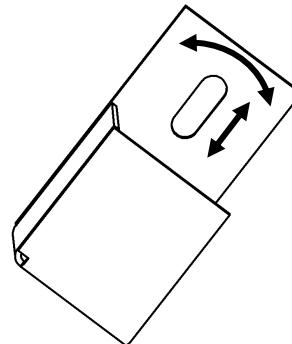

Figure 3-28
2. Loosen the bolt just until you can move the bracket. DO NOT REMOVE THE BOLT. The sensor bracket rotates and moves up and down in the slot on the bracket, as shown in Figure 3-28.